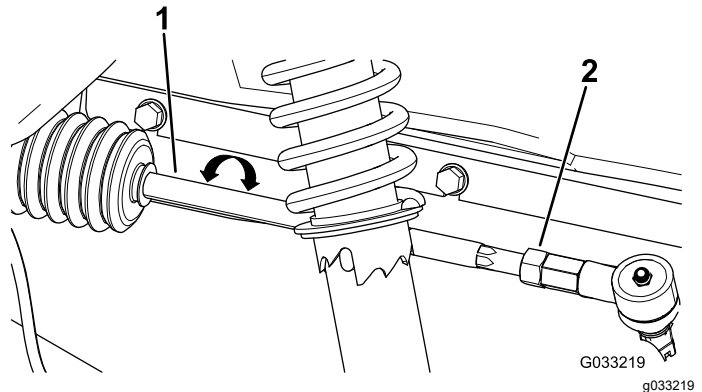

Figure 120
1. Loosen the jam nuts at the outer end of the tie rods (Figure 120).